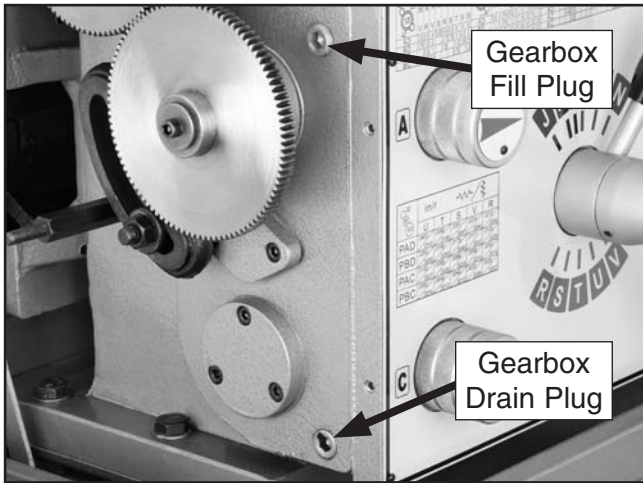

Figure 77. Gearbox fill and drain plugs.
8. Repeat **Steps 3–7** with the gearbox and apron oil reservoirs, using **Figures 77 & 78** to locate the fill and drain plugs.